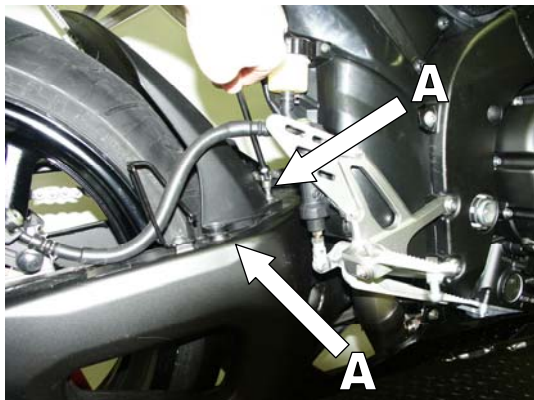

Figure 1
3. Unscrew and remove **bolts A** (Figure 1, 2, 3, 4) and remove stock fender and chain guard (Figure 5, 6).